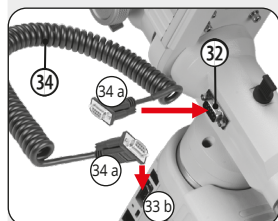

Fig. 19: Cable connection to the DEC axis motor
2. Insert one DE9 plug (34 a) of the DE9 connecting cable (34) into the DE9 socket on the DEC axis motor (32). Insert the other plug into the DE9 socket (33 b) on the connection panel (33). (Fig. 19)